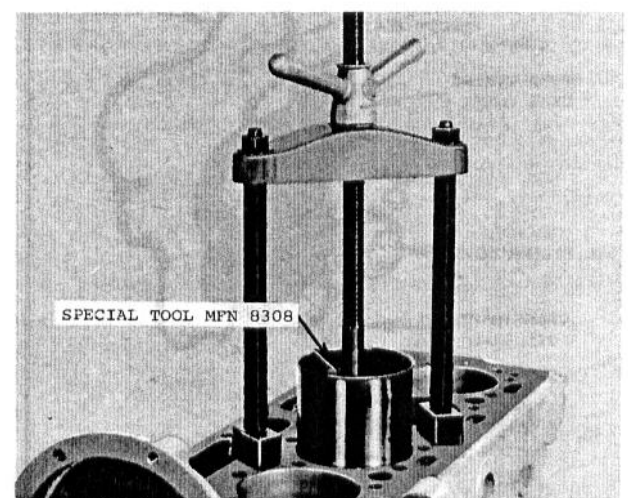

Fig. 13 — Removing Cylinder Liner
2. Using special tool MFN 8308, remove the liner from the top of the block as shown in Fig. 13.